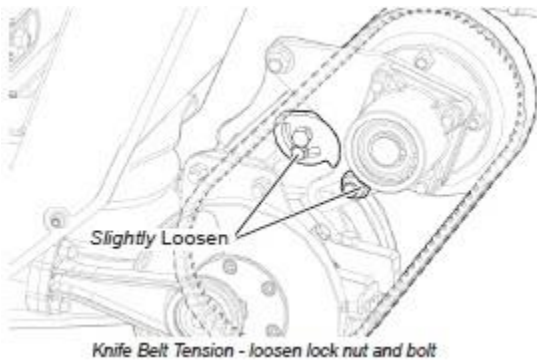

Figure 2
- The tension on the knife drive belt on the knife drive needs to be reduced. It has been found that since this belt is a “V” belt must be allowing to “slip” to protect the rest of the system. See figure 2 and 3.